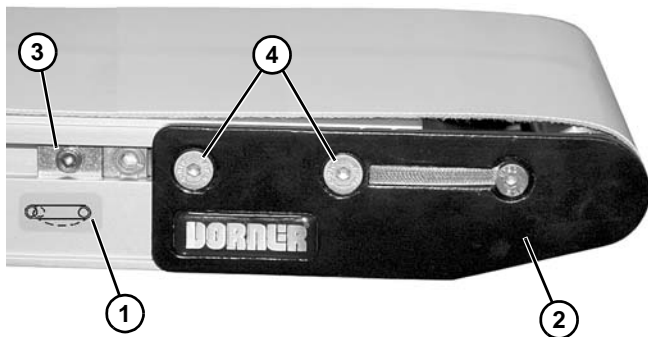

Figure 37
2. On tension end of the conveyor, identified with  a label (**Figure 37, item 1**), push in head plate assembly (**Figure 37, item 2**):
- a. On both sides of conveyor, loosen and move cam tracking assemblies (**Figure 37, item 3**) (if equipped) away from head plates.
- b. Loosen fastening screws (**Figure 37, item 4**) and push head plate assembly inward.
Figure 37 shows a vertically mounted gearmotor. Horizontally mounted gearmotor is similar.